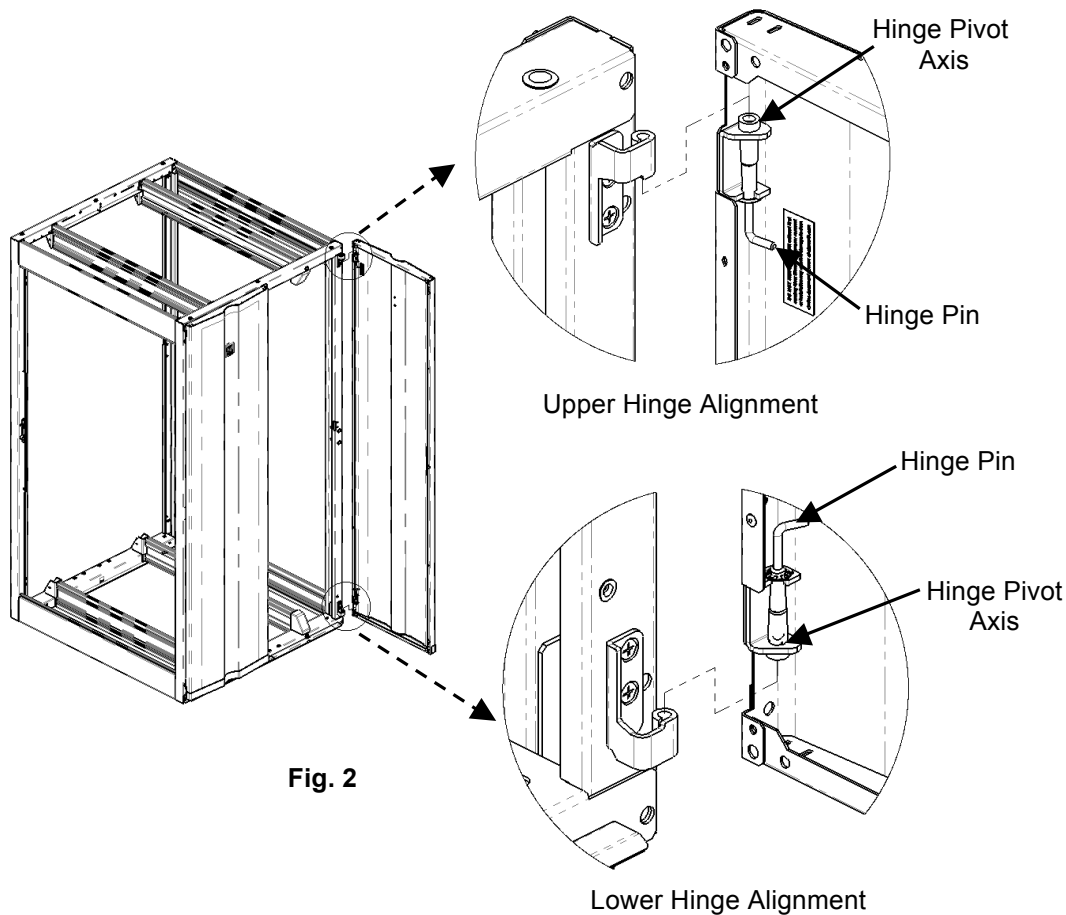

Fig. 2
- Orient the front door perpendicular to the cabinet, with the upper part of the door tilted sideways slightly away from the cabinet (Fig. 2).
- Carefully lower the door onto the lower hinge. Be sure that the hinge pin aligns correctly with the hinge pivot axis (Fig. 2).
- Bring the door frame vertical and align the upper hinge pin with the hinge pivot axis in the door extrusion. Engage the upper hinge pin in the door by pulling down on the spring loaded hinge pin handle. Make sure pin is fully engaged with hinge (Fig. 2).